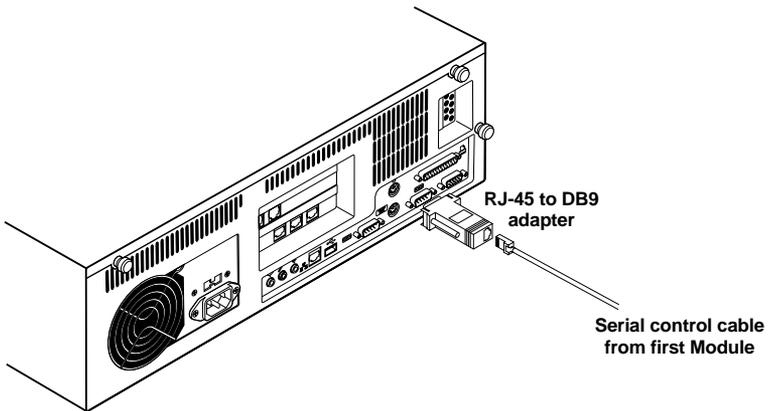

Figure 3-11. Attaching the cable from the first PC's Module to the ServLINK.
- 3a. *If this is the first Management Module in the daisychain:* Use RJ-45F-to-DB9F adapter included with the Module to connect the other end of this cable to one of the ServLINK's serial ports, as shown in Figure 3-11.